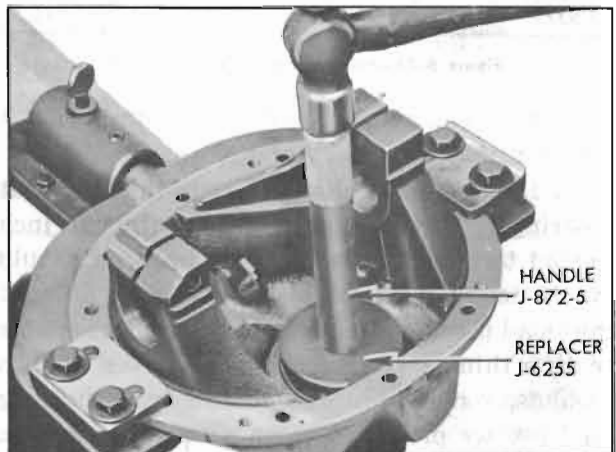

Figure 6-24—Installing Rear Pinion Bearing Outer Race
2. Drive rear pinion bearing outer race against shoulder in carrier using Replacer J-6255 with driver handle. See figure 6-24.